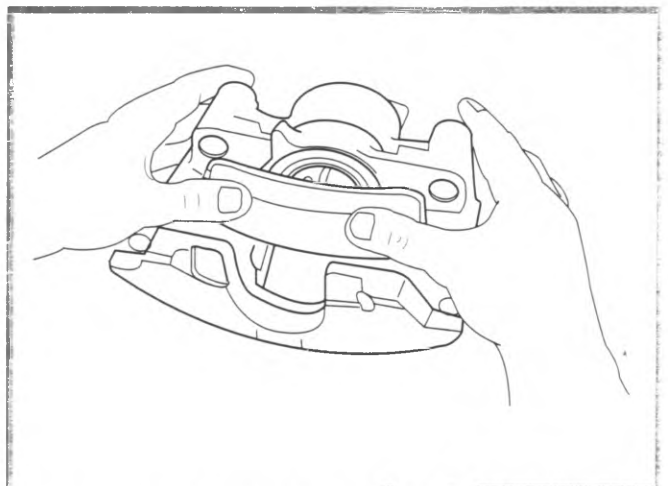

Figure 6-13, Connect Inboard Shoe
4. Connect the inboard shoe and lining by snapping the shoe retainer spring into the piston (figure 6-13). The shoe must lay flat against the piston. After installing the shoe and lining, check that the boot is not touching the shoe. If it is, remove the shoe and lining and re-set or re-position the boot.